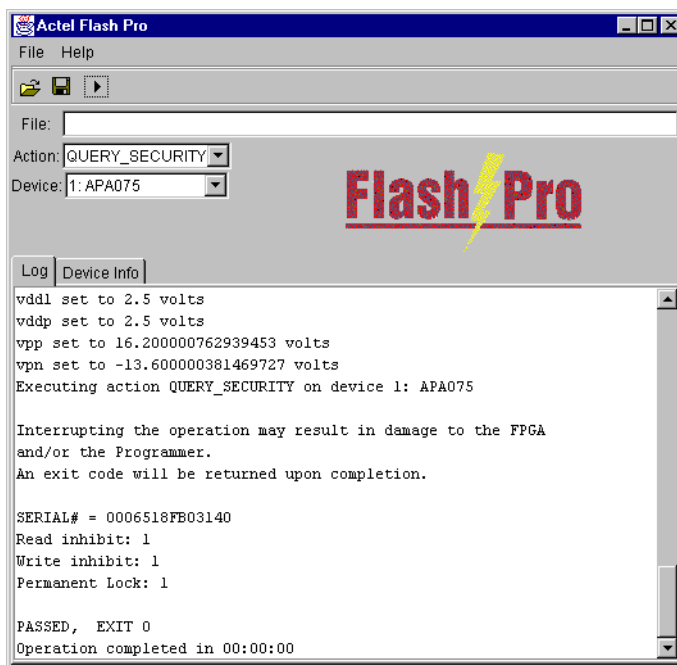

Figure 3-12. Query Results for the Permanently Locked Device
4. **Make your selections and click *Execute* to start programming.** The progress of the programming action is displayed in the Log window. The message 'Exit 0' indicates that the device has successfully been programmed as shown in Figure 3-12.